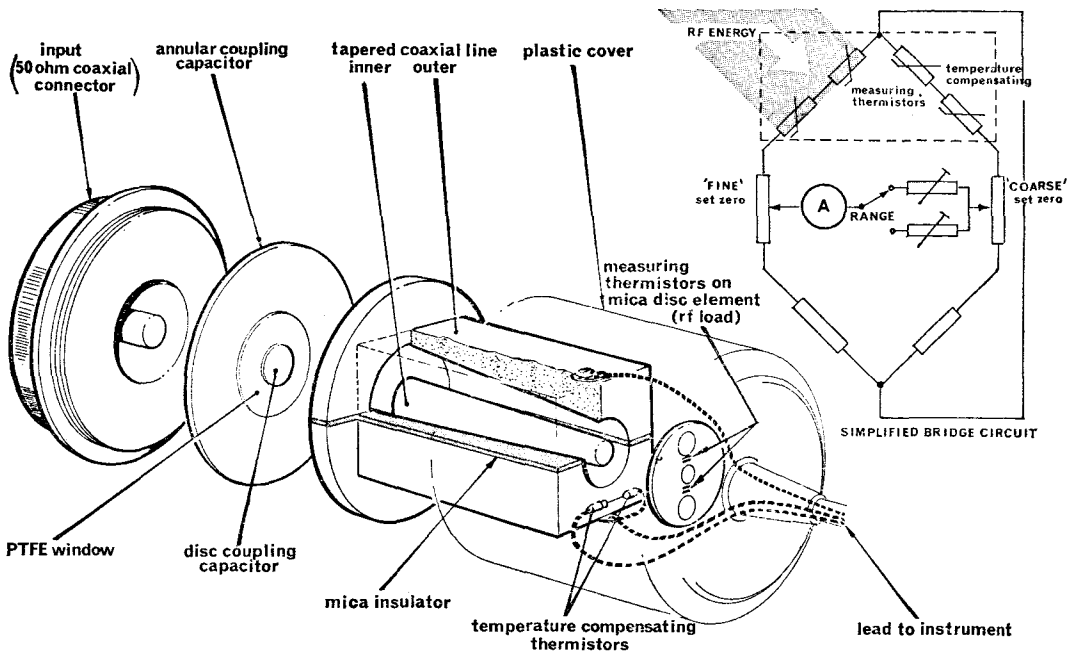

Fig. 11. Typical thermistor mount
19. **Typical mount.** Figure 11 shows a typical thermistor mount. The measuring element is a mica-disc capsule containing two thermistors, each of which has a "normal" resistance of 100 ohms with the bridge balanced at room temperature. To the incident r.f. these are mounted in parallel between the inner and outer conductors of a tapered coaxial line and thus present a matched load of 50 ohms. To the measuring instrument they are in a series and give a bridge arm resistance of 200 ohms. Also in the mount are two temperature compensating thermistors which form another arm of the measuring bridge. These thermistors are not affected by the r.f. but will change resistance with ambient temperature in the same way as the measuring thermistors thus preventing zero drift of the instrument with temperature.